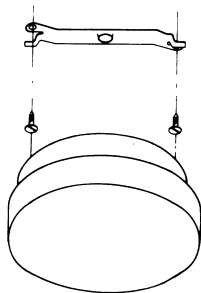

FIGURE 6
3. Use mounting screws provided for attaching to studs or woodwork. For plaster or plasterboard, you may wish to use plastic anchors and screws. See Figure 6.
4. Screw mounting bracket to surface securely. **NOTE:** Before mounting alarm on a wall, be sure arrow on mounting bracket is pointing up toward ceiling. See Figure 6.